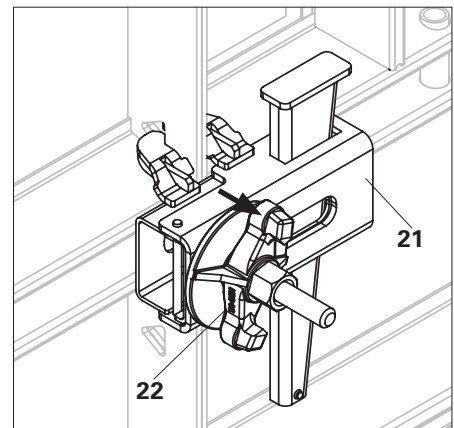

Fig. A4.08
6. Hammer the wingnut counterplate DW 15 (30) to ensure that the Tie system DW 15 (22) is perfectly tightened with the Alignment Clamp (21). (Fig. A4.08)